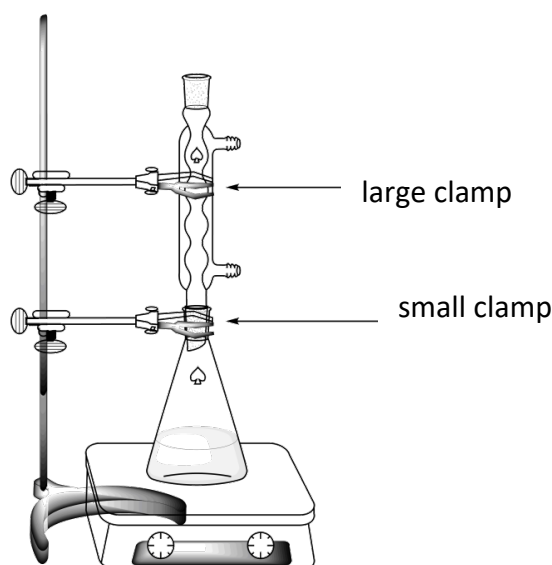

Figure 1. Setup for heating the reaction mixture under reflux
- Attach the reflux condenser by loosening the large clamp and adjusting the ground joints (see Figure 1). Raise your HELP card. A lab assistant will come to turn on the water and set the hotplate.
- Recrystallize the crude product in the 50 mL ground-joint Erlenmeyer flask adding an **appropriate amount** of the **water/ethanol** mixture using the same setup as before for the reflux heating (see Figure 1). Raise your HELP card. A lab assistant will come to turn on the water and set the hotplate. If needed, add more **water/ethanol** solvent from the top of the condenser.